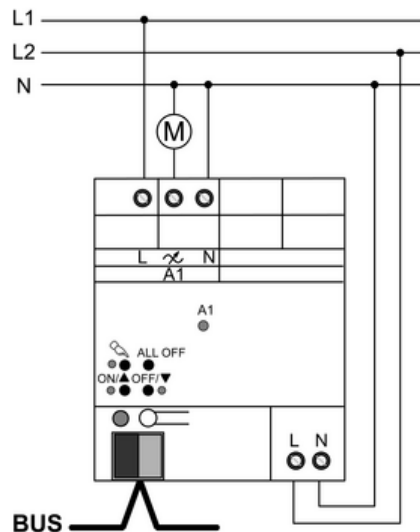

Figure 6: Dimmer actuator 1gang – connection for speed controller operation
- Connect device as shown in the connection example (Figure 6).